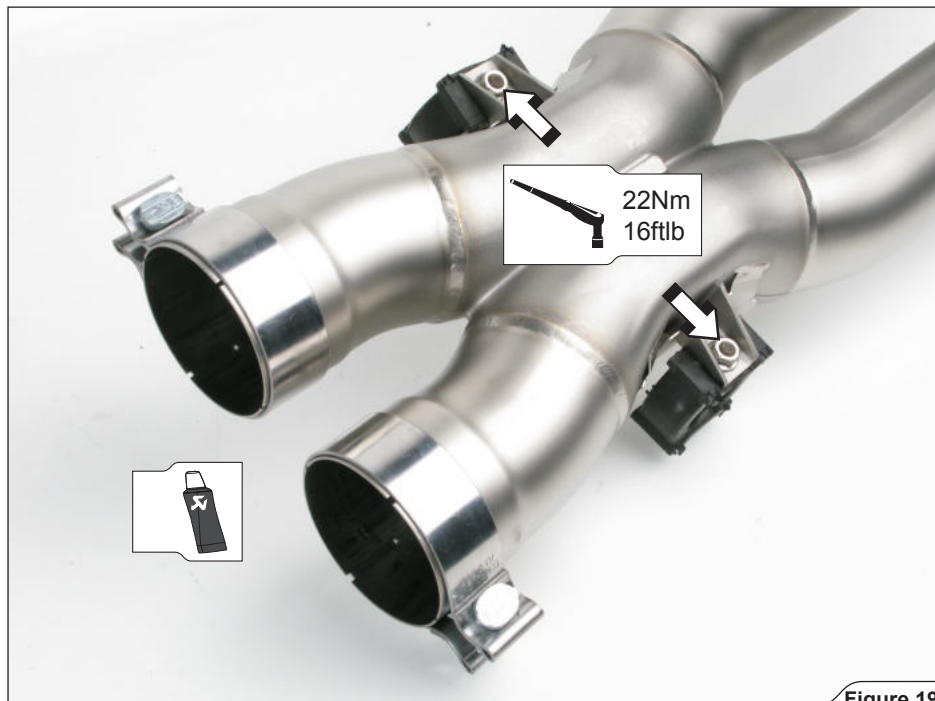

Figure 19
2. Correctly orient and attach the clamps (from Akrapovič installation kit) and stock rubber brackets (using stock nuts) onto the Akrapovič collector, as shown (Figure 19).